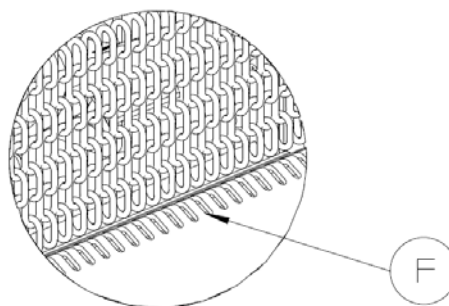

Figure 55
5. Remove the chains from the slots F as indicated in figure 55 and check the presence of any damage, which must be repaired immediately in a way to restore the initial state;